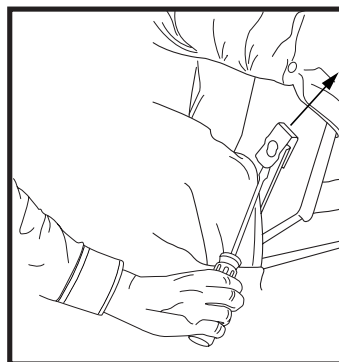

Figure 7. Clip Lifting
2. Using a large flat head screwdriver, lift the left and right clips of the chair back to raise the back from the brackets on the chair base. As you lift the clip, pull up on the back to lift that side over the lock. See figure 7.
1. Remove the bottom of the back fabric from the hook and loop flaps on the chair base. See figure 7.